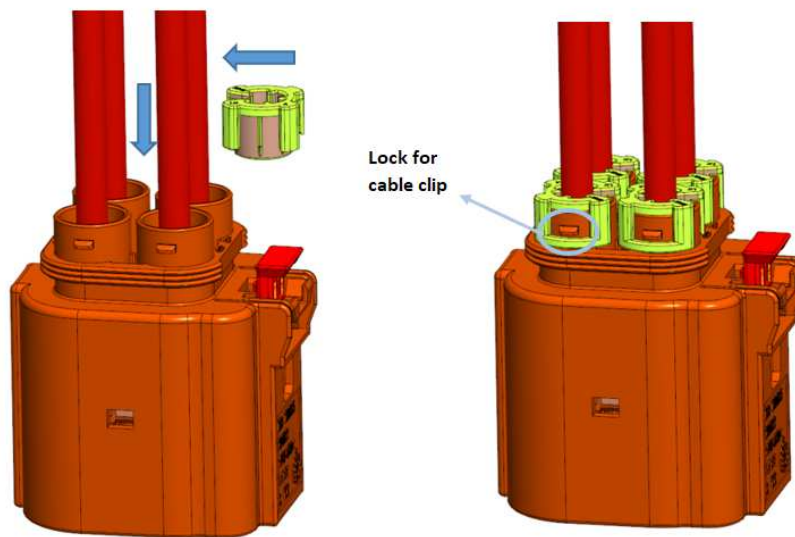

Figure 3: Assemble of Cable clip
Step 2: Insert cable clip on to cable and slide along cable to lock at receptacle housing as shown in fig 3.